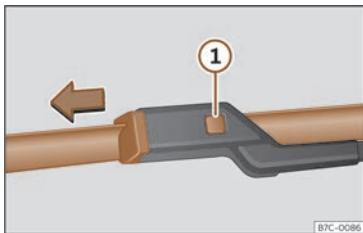

Fig. 204 Changing the windscreen wiper blades
- Press and hold release button >>> **Fig. 204**  and pull gently on the wiper blade in the direction of the arrow.